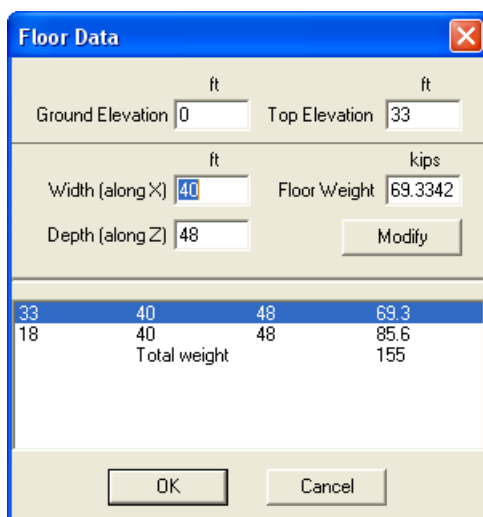

Figure 5-26 Floor Data dialog box
- To modify the computed floor weights or dimensions, choose the FLOOR DATA button. The dialog box in Figure 5-26 appears. In this box you may change the width, depth, or weight of a floor. Input values may not be less than computed values.